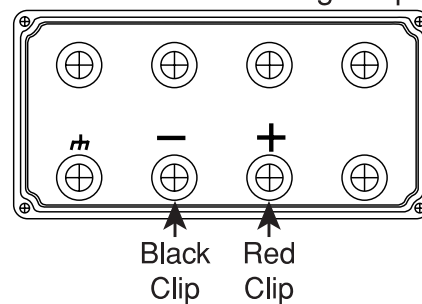

Figure 1-2
6. Connect the red clip to the positive (+) flowmeter terminal and the black clip to the negative (-) terminal. See Figure 1-2. If the positive and negative leads are reversed, neither the flowmeter nor the configuration program will function properly, but no damage will occur. If your flowmeter has an LCD display, verify that the display is working.